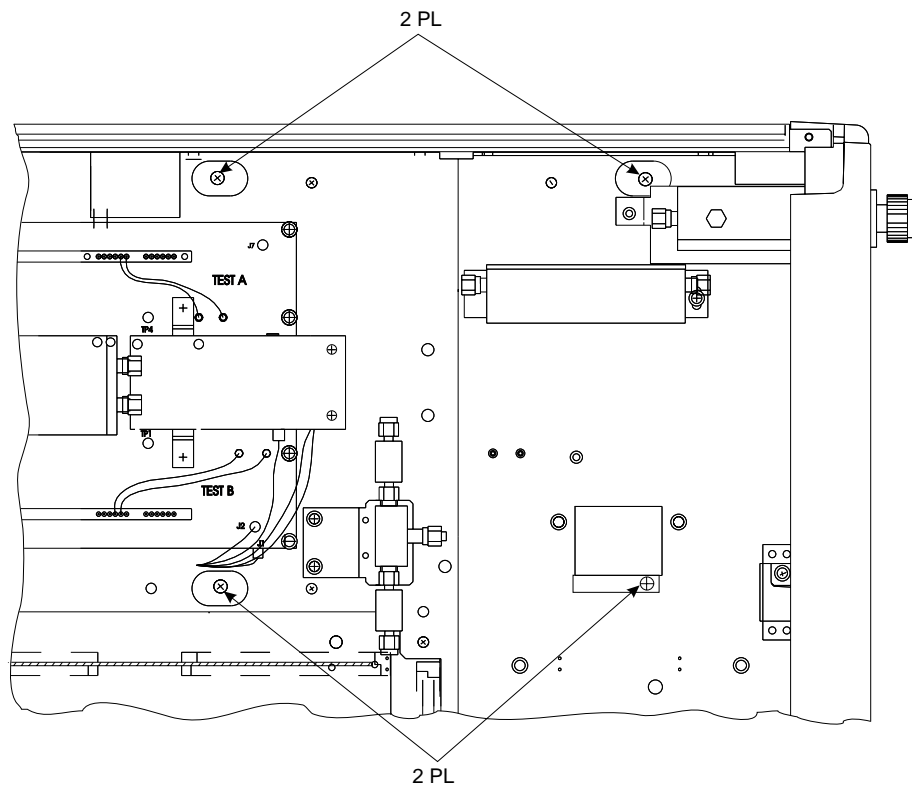

Figure 8-7. Location of Internal VGA Monitor Assembly Mounting Screws
- Step 3. Remove the four screws that fasten the monitor assembly to the chassis (see Figure 8-7). Do **not** unfasten the screw with the blue plastic washer under the screw head.